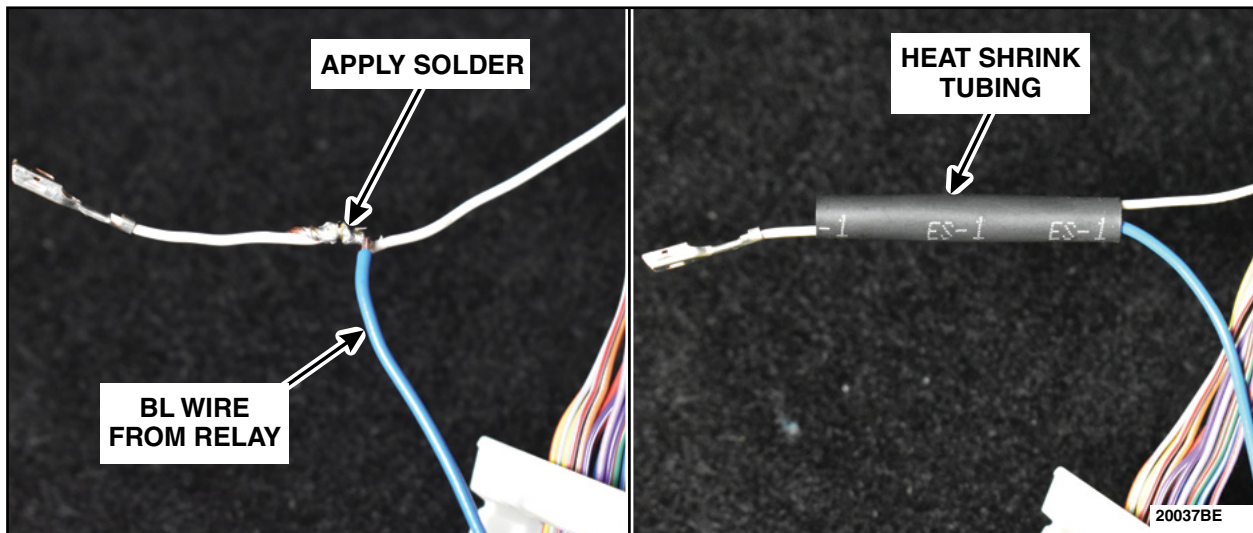

FIGURE 29
47. Solder the BL wire from the relay to the inline splice. Install heat shrink tubing over the inline splice. See Figure 29.